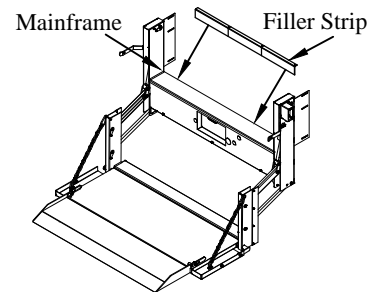

Figure 6: Filler strip location.
4. **Apply** the vinyl tape the the under side of the filler strip (Figure 6).